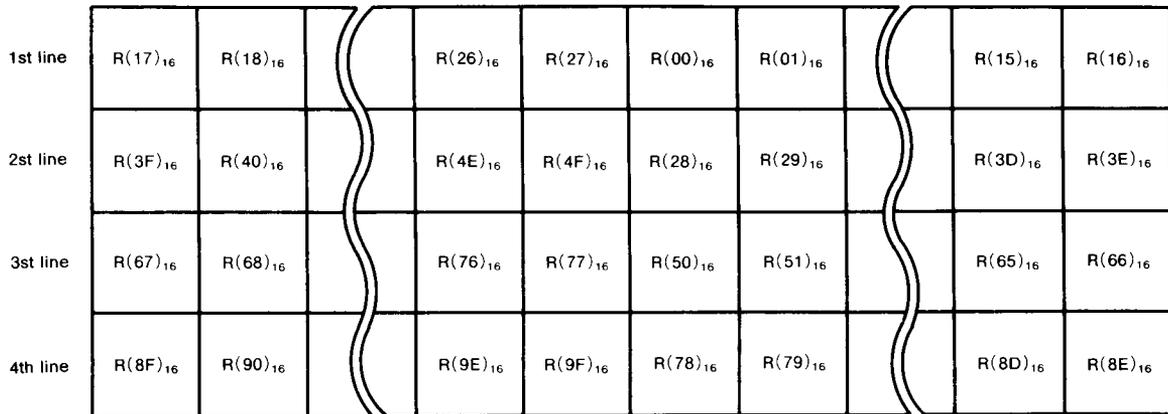

Fig.9 Example of display address
When the content of the display address register is (17)₁₆, LCD will be as Fig. 9: